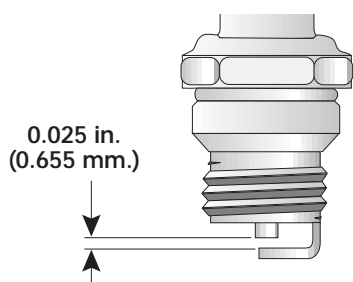

Fig. 73
3. Replace cracked, fouled or dirty spark plug. Set the air gap at 0.025 in. (0.655 mm.) using a feeler gauge (Fig. 73).